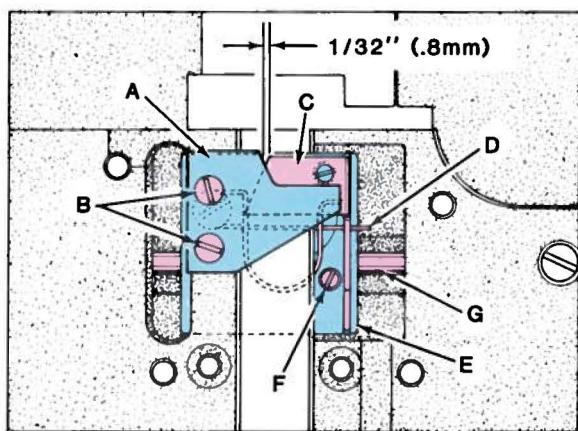

Fig. 23
NOTE: All references to Fig. 23 are as viewed from rear of machine; references to Fig. 24 are as viewed from left end of machine.
The upper knife (A, Fig. 23) is replaced by removing two screws (B). In order to replace lower knife - the upper knife, rear cover and thread inlet must be removed. The lower knife (C) is held in position by a roll pin (A, Fig. 24) and tension spring (D, Fig. 23). To remove lower knife, lift up and tilt to the right. When replacing lower knife, be sure to engage end of tension spring through the hole in side of lower knife before inserting in the slide block (E). Also be sure the slot in lower knife is located over roll pin as shown in Fig. 24.
Proper left to right adjustment of lower knife is correct when at extreme left of travel there is  $1/32$  inch (.8mm) clearance between front of its cutting edge and upper knife cutting edge as shown in Fig. 23. To adjust, move slide block to extreme left and loosen lock screw (F, Fig. 23). Then while holding drive shaft (G) from moving, reposition slide block to proper dimension for lower knife and retighten lock screw (F).